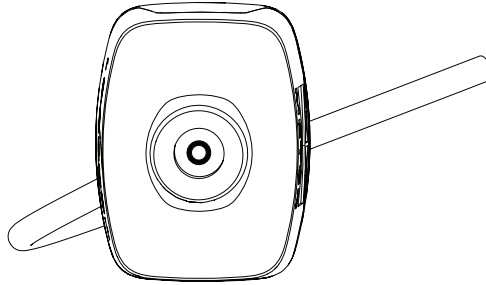

Figure 14 O-ring inside sensor unit
If water potential rises slowly or not at all even though the TEROs 31 is properly filled, the O-ring inside the sensor unit (Figure 14) may be worn out and needs to be replaced.
2. Use needle-nose or surgical tweezers to remove the old black O-ring (Figure 14).